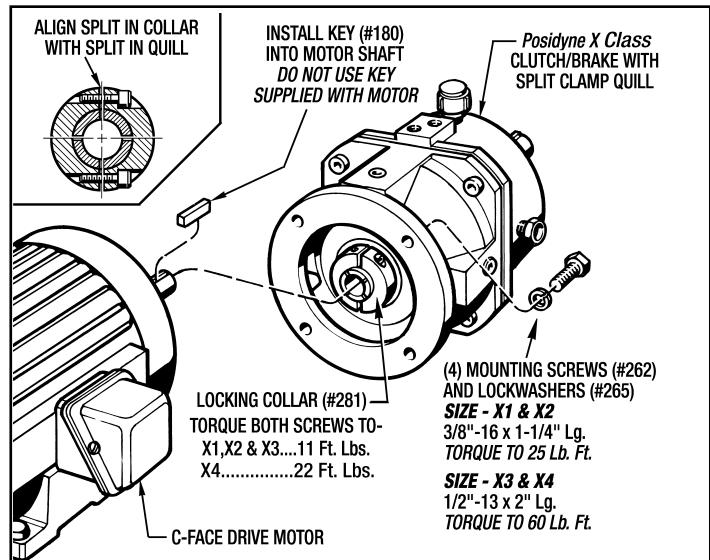

Figure 3 - Mounting The Posidyne Clutch/Brake
(See *Figure 3*)
- Loosely install the Locking Collar (#281) in position on the Input shaft (#2) with the split in the collar aligned with the split in the quill shaft as shown in *Figure 3*. **Do not tighten the screws yet.**